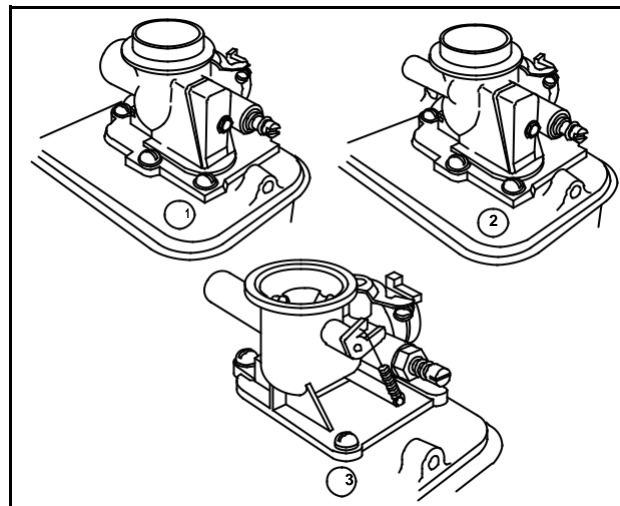

Fig. 10
Carburetor Types (Fig. 10)
There are three basic types of Pulsa-Jet and Vacu-Jet carburetors used on above series engines. They are (1) All-Temperature/Automatic Choke, (2) Automatic Choke, and (3) Choke-A-Matic, Fig. 10.